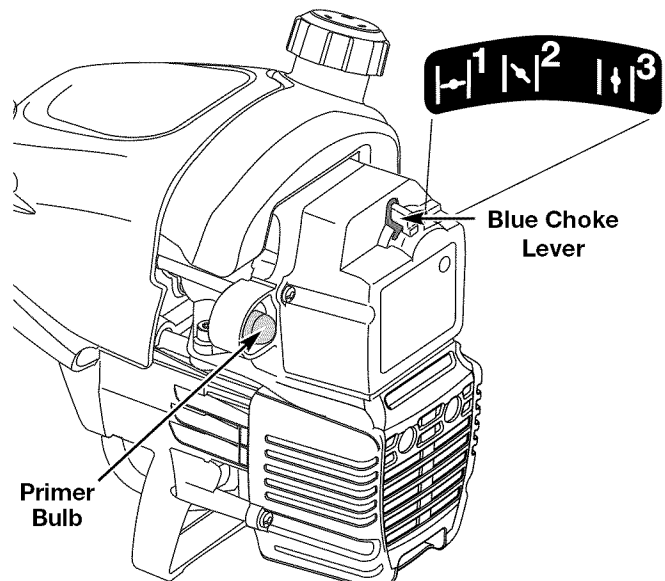

Fig. 20
2. Fully press and release the primer bulb 10 times, slowly. Some amount of fuel should be visible in the primer bulb and fuel lines (Fig. 20). If you can't see fuel in the bulb, press and release the bulb as many times as it takes before you can see fuel in it.
3. Place the blue choke lever in **Position 1** (Fig. 20).
5. Place the blue choke lever in **Position 2** (Fig. 20).
8. Once the engine is warmed up, place the blue choke lever in **Position 3** (Fig. 20). The unit is ready for use.
**IF...** the engine hesitates, return the blue choke lever to Position 2 (Fig. 20) and continue warm-up.